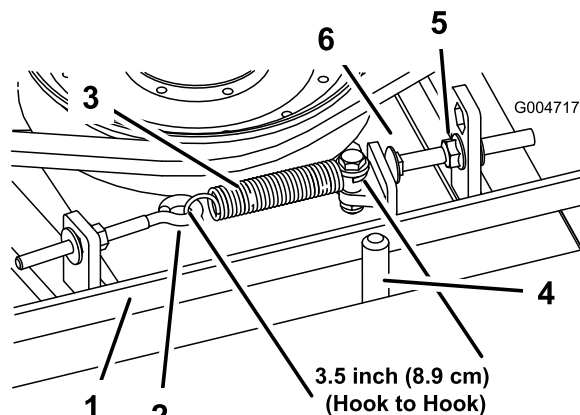

Figure 72
When properly tensioned, the inside measurement of the extension spring (hook to hook) should be approximately 8.3 to 9.5 cm (3-1/4 to 3-3/4 inches). Once the correct spring tension is attained, adjust the stop bolt (carriage bolt) until there is approximately 2 to 5 mm (0.065 to 0.185 inch) clearance between the head of the bolt and the idler arm (Figure 72).
Note: Ensure that the belt is positioned on the spring side of the belt guide (Figure 72).
2. Loosen the eye bolt allowing the removal of the extension spring (Figure 72).
3. Loosen the flange nut securing the stop bolt to the mounting tab and move the idler pulley away from the belt to release the belt tension (Figure 72).
9. Connect the extension spring (Figure 72) to the eye bolt and tension the belt as follows: